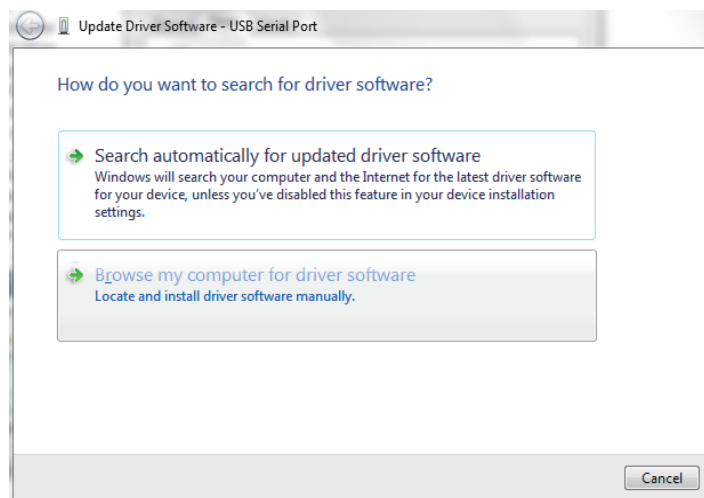

Figure7-3-4-5. Update Driver Software
6. On Message window (Figure 7-3-4-6), click on “Browse” button to select the driver software location under Removable disk included in package.